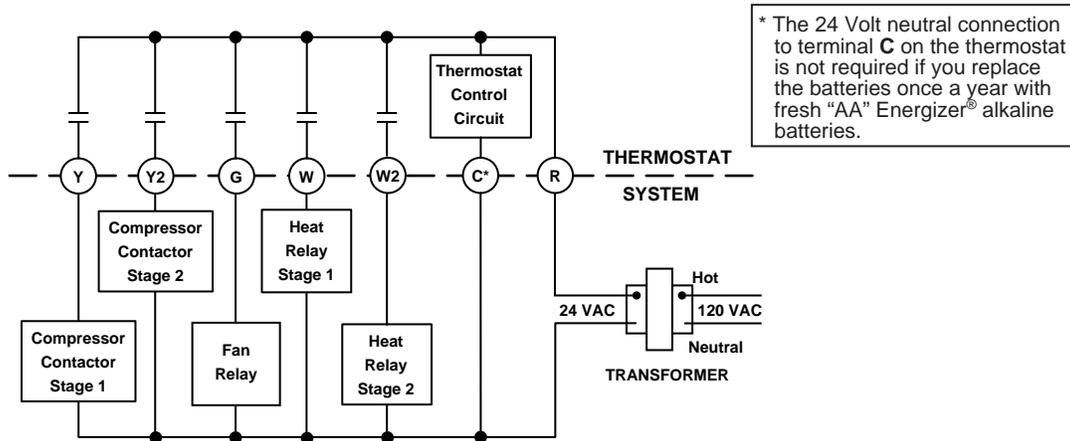

Figure 3. Typical wiring diagram for single transformer systems
6. Check that the SYSTEM switch is in the **OFF** position. Connect the wires beneath the terminal screws on the base using the appropriate wiring diagram (see figs. 3 through 5).